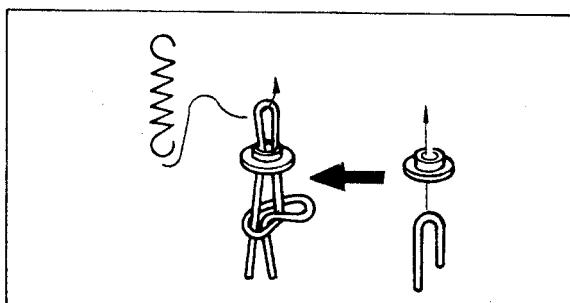

Fig. 2-5. Details of dial cord finish
- Note:** At the finish point, pass the doubled end of the cord through the eyelet (see Fig. 2-5) and tighten the cord and squeeze the eyelet so that the spring is under tension. Make two knots in the cord end to keep it from slipping out of the eyelet as shown in Fig. 2-5.